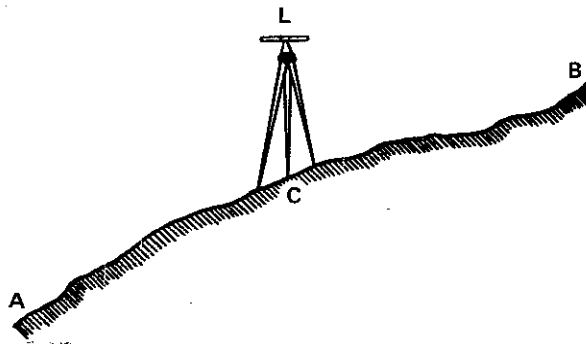

Fig. 5-59
17. Describe the procedure for finding the difference in elevation of points A and B in figure 5-59.